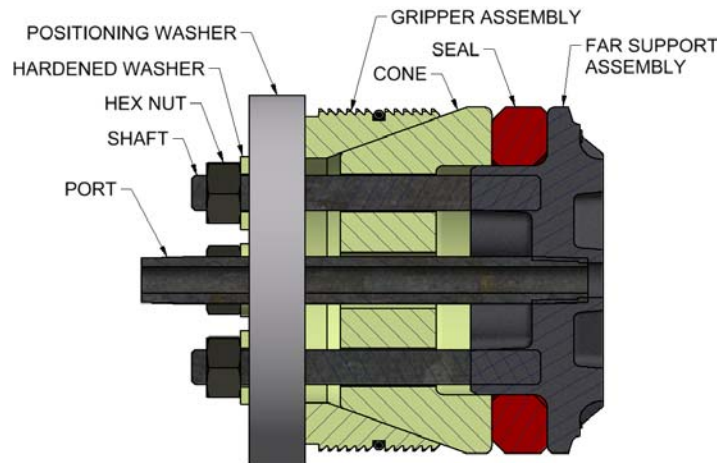

Figure 3: Type 5 GripTight MAX Test Plugs
- The Seal has asymmetrical chamfers. Place the Seal on the Far Support with the large chamfer facing the Cone. See Figure 3 for reference.